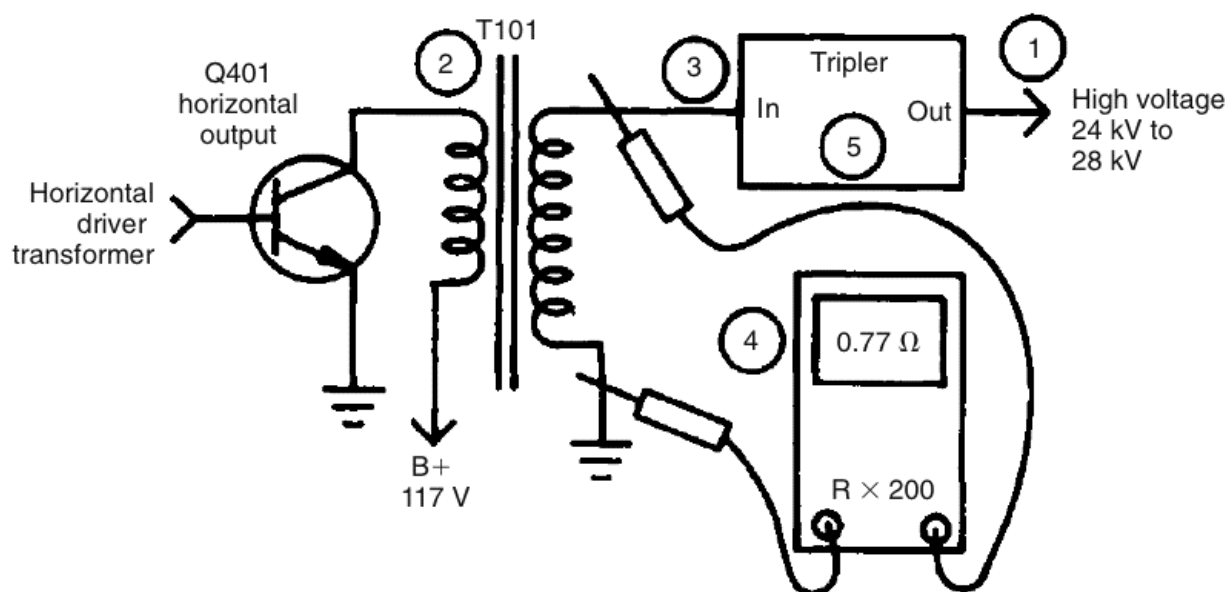

FIGURE 5-19 Check the high-voltage circuits by the numbers, and use high-voltage and resistance measurements.
With a no-raster, no-sound symptom (Fig. 5-19), check the high voltage at the picture tube (1). If high voltage is normal, notice if the picture-tube filaments are lit. Now go to the video circuits if the CRT and high voltage are normal. If no high voltage is measured, take a voltage measurement at the collector terminal of the horizontal output transistor (2).